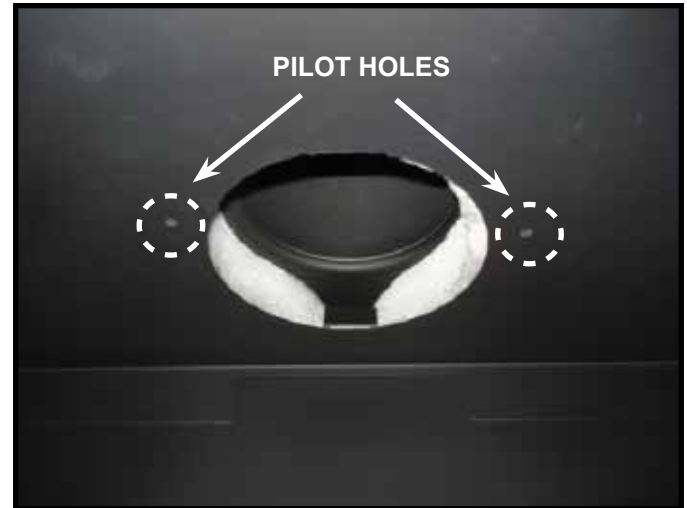

Figure 7.8 Location of Pilot Holes
1. Locate the two pilot holes located in the inside firebox heat shield as shown in Figure 7.8.